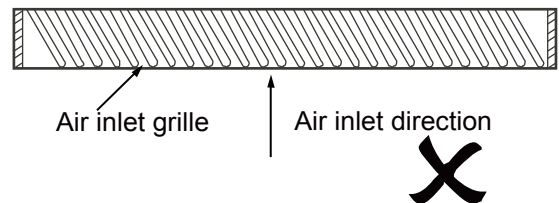

Figure 2.5
2. There should be no angle between the air inlet grille and the direction of the air inlet, otherwise the noise level will increase. For example, the method used to create the air inlet grille in Figure 2.5 is wrong.